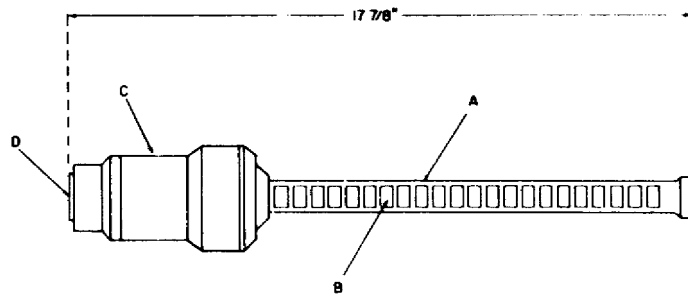

Figure 3-10. Basic components of the Electro-Voice Model 642 Card line directional microphone
b. Figure 3-10 shows the basic components of this microphone. In-line tube (A) has a 1/8-inch slot milled its entire length and a group of ports which act as a linear tapering acoustic resistance. In-line tubes are equally sensitive to equal sound pressures, and will cause equal voltages to be generated at the output of the dynamic transducer unit (C).